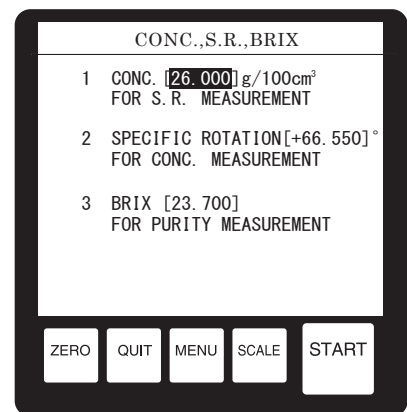

Fig.16-2
- On the Specific Rotation Measurement Value display, the concentration value of the sample to be measured needs to be input before taking a measurement. Using ↓ or ↑, move the arrow (→) on the screen so that it points to "3 CONC./S.R./BRX", then press ←key (The same can be done by pressing the "3 GHI" key, and then the "←" key on the numeric keypad ("3" + "←"), without using ↓ or ↑). The screen shown in Fig.16-2 will appear on the display panel.
- On the Concentration Measurement Reading display, the specific rotation value of the sample to be measured needs to be input before taking a measurement. Using ↓ or ↑, move the arrow (→) on the screen so that it points to "3 CONC./S.R./BRX", then press ←key (The same can be done by pressing the "3 GHI" key, and then the "←" key on the numeric keypad ("3" + "←"), without using (↓ or ↑). The screen shown in Fig.16-2 will appear on the display panel. Leaving the highlighted setting inside "[]" under 1 CONC as it is, press ← key.
- c) The screen shown in Fig.16-2 will appear on the display panel.